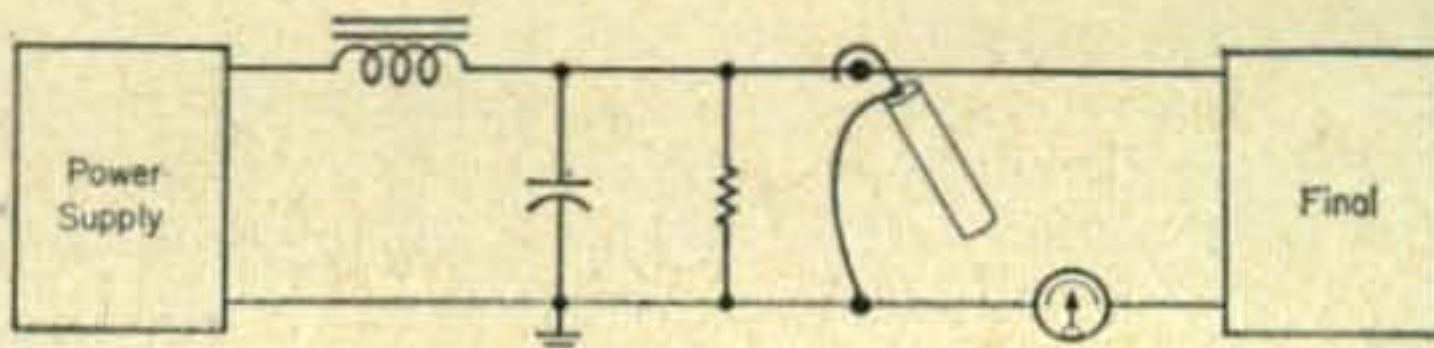

Fig. 1—The crowbar connected across the filter capacitors assure a discharged power supply. In this circuit the meter is in the cathode of the final.
Fig. 1—View of the tower illustrating the installation of 2 inverted V antennas. Choice of terminating points should be made, wherever possible, to maintain a 90 degree relationship between the two antennas.
Figure 1 illustrates antenna leg dimensions arrived at after considerable experimentation. The eighty meter "V" forms a plane almost perpendicular to the earth, while the 40 meter "V" is slanted somewhat. The installation was guided by two limiting factors: (1) a desire to keep the planes formed by the antennas 90° apart and (2) the location of existing trees, rain gutter supports and poles to which the nylon support ropes were attached at my QTH.
Figure 1 is an excellent plan. The crowbar is directly across the filter capacitor to ground, with the meter in the cathode lead of the final. This latter is often difficult or impossible, however. Placing the meter in the hot lead, as in fig. 2, is a possible alternative.
Inspection of the diagram (fig. 1) shows a 6C4 used in a Keen oscillator circuit giving 24 mc output across L_2 . The 24 mc signal is multiplied 6 times by the diode CR_1 to drive the 6AK5 final straight through at 144 mc. In theory it would have been better to triple and then double using two diodes than to multiply 6 times in one diode, but one stage is used here in the interest of simplicity. Bias for the diode is taken from the oscillator grid leak. This has the advantage of providing bias proportional to the oscillator amplitude, thereby compensating for changes in supply voltage, etc. Much experimenting proved the necessity of the parallel tuned circuit L_3, C_3 . I believe the function of this circuit is to provide an idler loop² in conjunction with C_2 . Nearly all of the component values given in fig. 1 were empirically optimized for maximum performance.